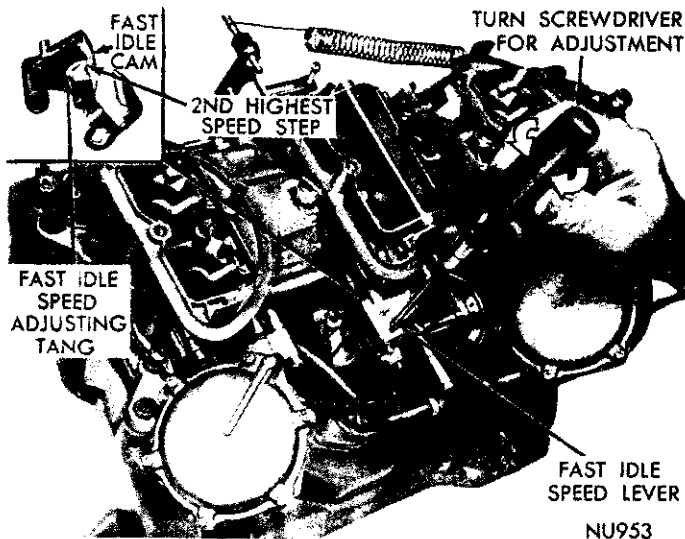

Fig. 27—Fast Idle Speed Adjustment (On Vehicle)
(1) With the engine off and the transmission in the PARK or NEUTRAL position, open the throttle slightly.
(2) Close choke valve until fast idle screw tang can be positioned on the second highest-speed step of the fast idle cam (Fig. 27).
(3) Start the engine and determine the stabilized speed. Bend the fast idle tang by use of a screwdriver placed in the tang slot to secure the specified speed. **CAUTION:** Bend only in a direction perpendicular to the contact surface of the cam. Movement in any other direction changes the CAM POSITION ADJUSTMENT described earlier.
(4) Stopping the engine between adjustments is not necessary. However, reposition the fast idle tang on the cam after each speed adjustment to provide correct throttle closing torque.